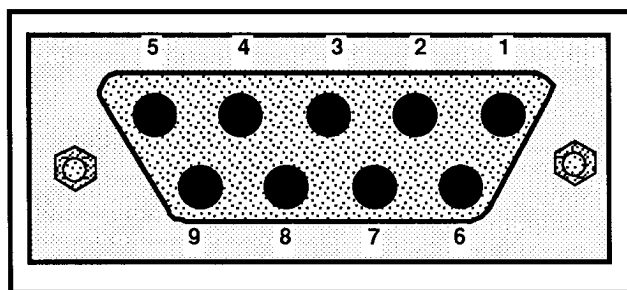

Figure 3-4. Accessories connector J103.
e. Monitor Pin 3 of J103 (Figure 3-4) with the test oscilloscope. Set the test oscilloscope sweep rate to 10 ms/Div and volts/Div to .5.
g. Monitor Pin 6 of J103 (Figure 3-4) with the test oscilloscope. Set the test oscilloscope sweep rate to 1 ms/Div and volts/Div to 2.
j. Monitor Pin 7 of J103 (Figure 3-4) with the test oscilloscope. Set the test oscilloscope volts/Div to .5.
d. Connect a 100 kHz square-wave signal to Pin 1 of J103 on the rear panel of the spectrum analyzer. See Figure 3-4.